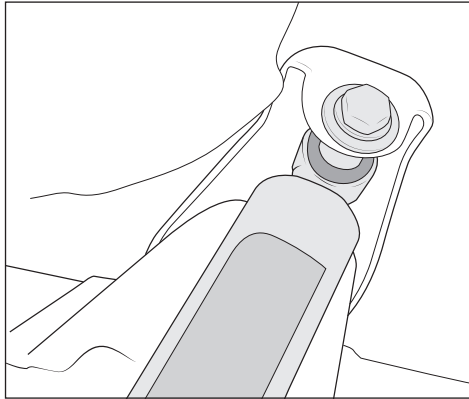

Figure 9
10. Install new rear shocks at upper mount using factory hardware (PN 33-310480). Shock body sits at the top with AEV graphic facing outward at vehicle (Fig 9).